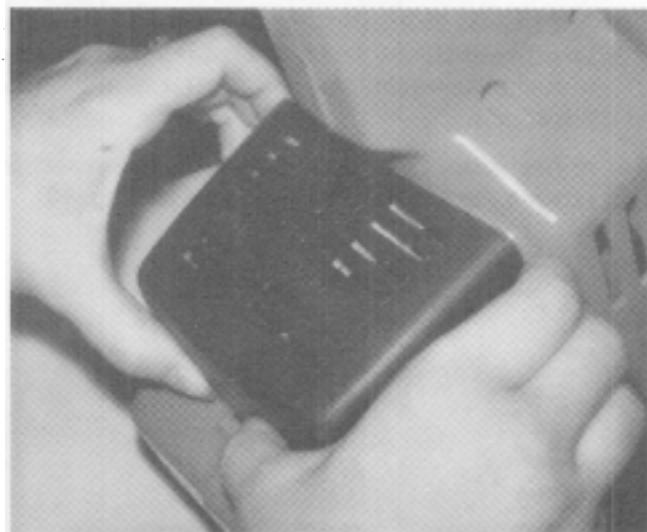

Figure 10
1. Remove air cleaner cover by pressing up on bottom of cover to release lower mounting tab and pressing in on front of cover to release upper tab. DO NOT FORCE (Fig. 10).